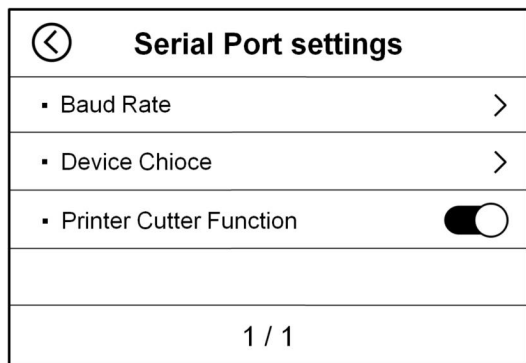
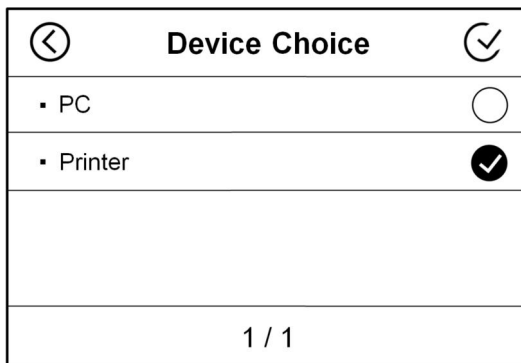
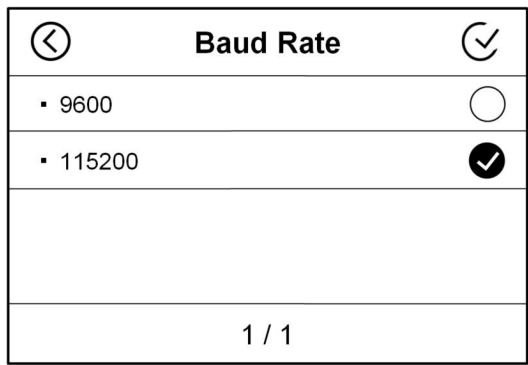

Figure 72
Figure 73
Figure 75
2) Touch the “**Serial Port**” key to enter the baud rate setting interface, as shown in Figure 72 below. First touch the second item “**Device Choice**” to enter the peripheral selection interface. In this interface, type “” after the second item "Printer", as shown in Figure 73 below and then touch the “” key in the upper right corner to save, and it will automatically transfer to the interface shown in Figure 72.
3) In the interface shown in Figure 72, touch the first item “**Baud Rate**” to enter the baud rate setting interface, as shown in Figure 75 below. Please select the corresponding baud rate according to the printer's baud rate and then click “”, and then touch the “” key in the upper right corner to save. After changing the baud rate, the machine will prompt to restart, so please restart the machine as required.